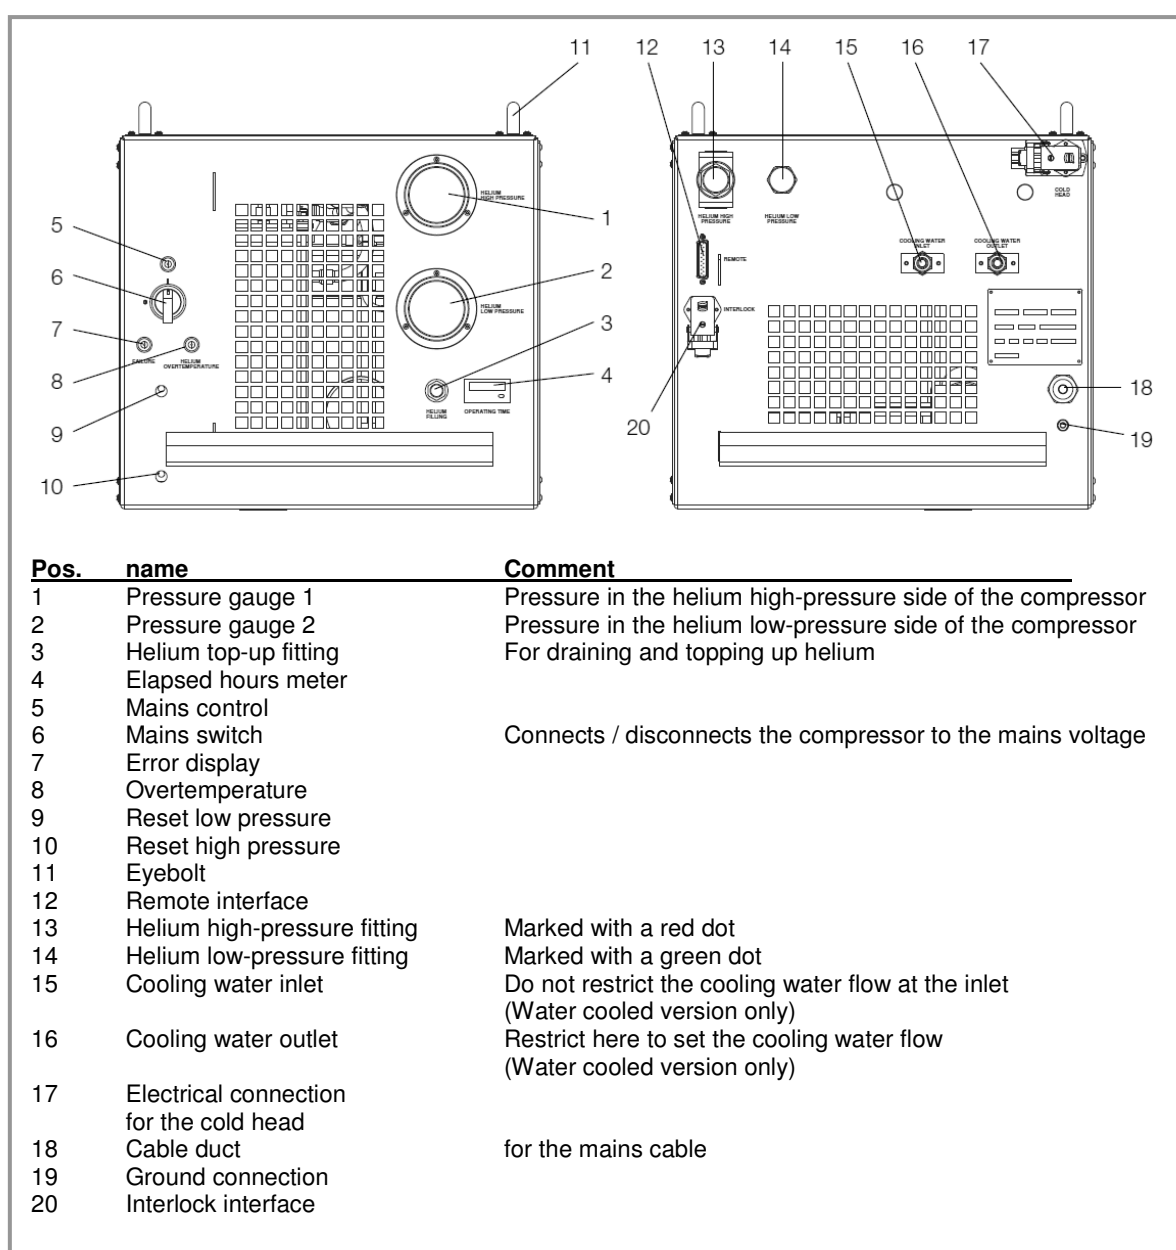

Figure 16: Compressor CP2000, connections and operator controls with explanations
- A compressor unit, see schematic of Figure 16. For explanations please refer also the attached compressor manual.
- 3.3 Start the compressor unit by turning on the mains switch (6), see Figure 16.
5. Connect the Aeroquip connector with the copper tube to the "Helium top-up fitting" of the compressor; see Figure 16 by using a 19mm wrench.